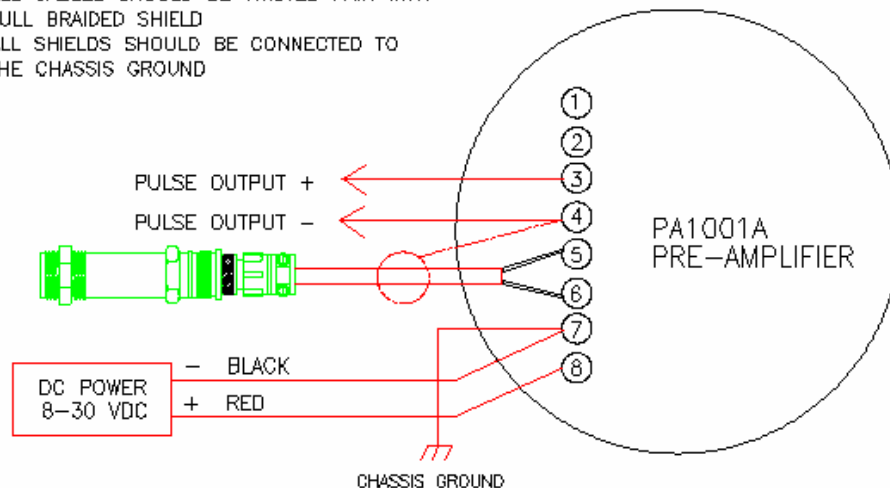

Figure 1
1. Connect a two conductor shielded cable from the pickup to Terminals 5 and 6. Connect the shield to Terminal 4 (see Figure 1). NOTE: It is also preferable that the pickup coil be grounded to the shield.
2. Connect a power source, which must be within 8-30 VDC, to Terminals 7 and 8. The Plus voltage is connected to Terminal 8 and the Return to Terminal 7 (see Figure 1).
3. Connect the Pulse output wire to Terminal 3, and connect the Pulse common to Terminal 4 (see Figure 1).